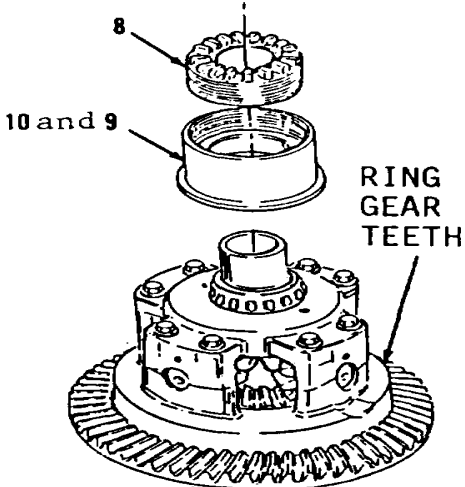

Figure 14-122.
- 27. Install items 10 and 9 as an assembly and nut (8, Figure 14-122).